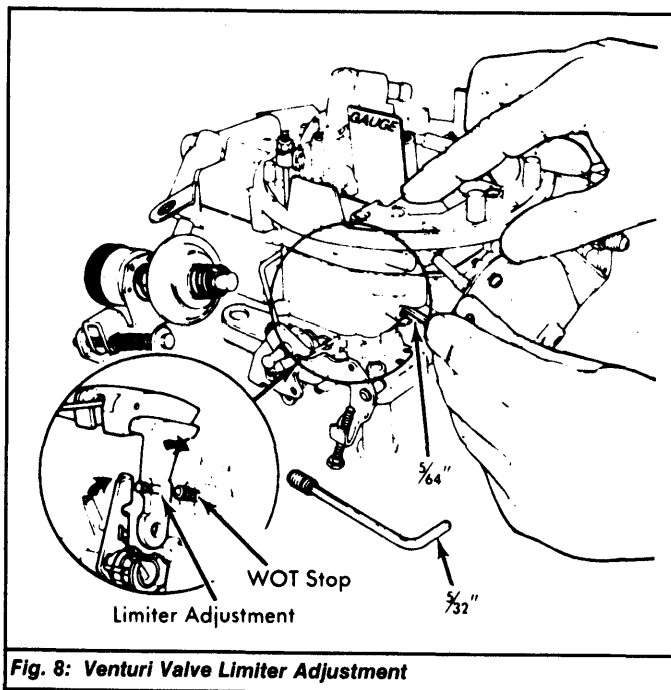

Fig. 8: Venturi Valve Limiter Adjustment
- 3) With Allen wrench removed, apply closing pressure to valve and recheck gap. Install venturi valve Wide Open Throttle (WOT) stop screw and turn clockwise until it touches valve. See Fig. 8.